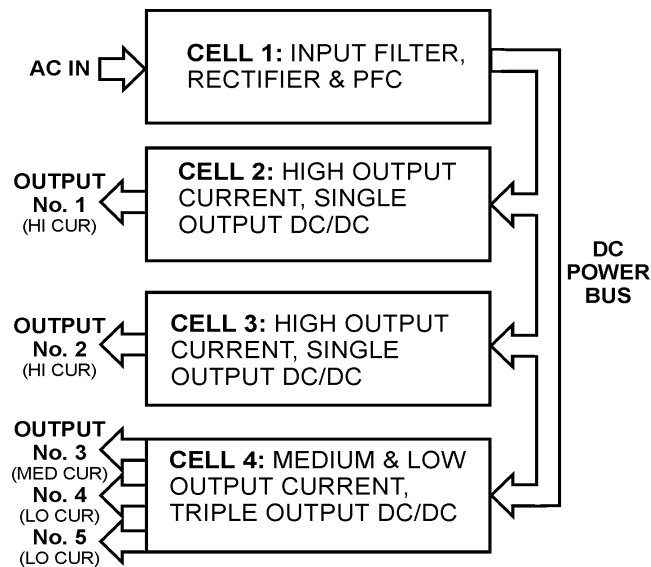

Figure 2. PowerCassette Simplified Block Diagram (AC Input)
- 7.1** A simplified block diagram of a Quick-Set PowerCassette unit with AC input is shown in Figure 2. PowerCassette employs a new, advanced CellularPower™ architecture consisting of standardized power cells. The diagram shows that there are four power cells employed.